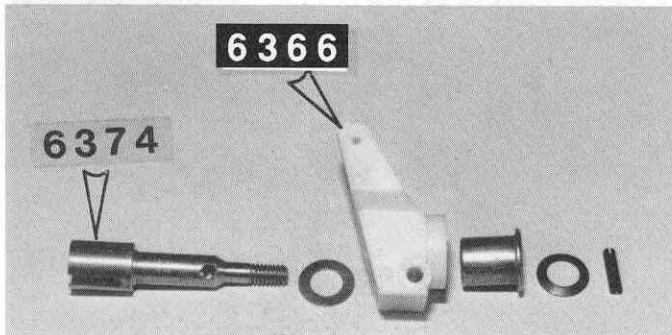

Fig. 110
□ **Fig. 110** Take the #6374 rear stub axle and slip the flat washer, as shown, onto the axle. Install the bushing into the #6366 LH rear hub carrier in the direction shown. If you're installing ball bearings, install one of the large #897 bearings on each side of the #6366LH hub carrier, and remove the flat washer from the axle. It is only used with bushings. Oil the bushing and slip the axle into the bushing. Now take the cone washer, the one that is not flat, and slip it on the shaft so that the part that touches the bearing is the center of the washer.